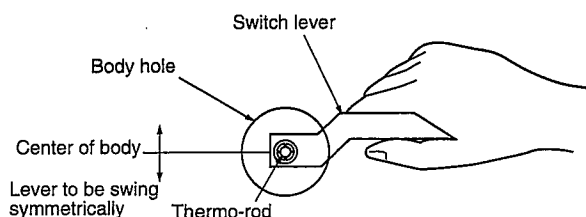

Fig. I-2
2. Adjust in such a manner that, when the switch lever held by hand as in Fig. I-2 is lightly swung to the left and right, it moves in a perfect symmetry with respect to the hole of the body.